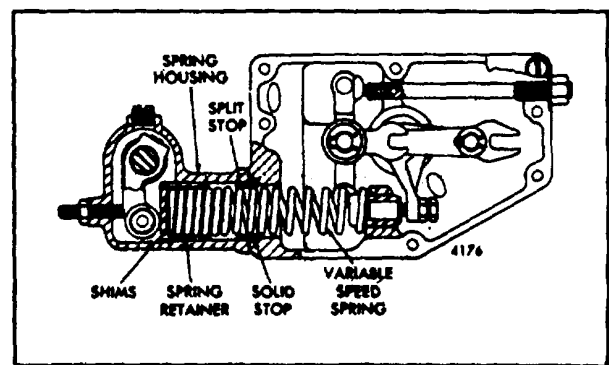

Fig. 6 - Location of Shims and Stop
3. Refer to Table 1 and determine the stops or shims required for the desired full-load speed. A split stop can only be used with a solid stop (Fig. 6).